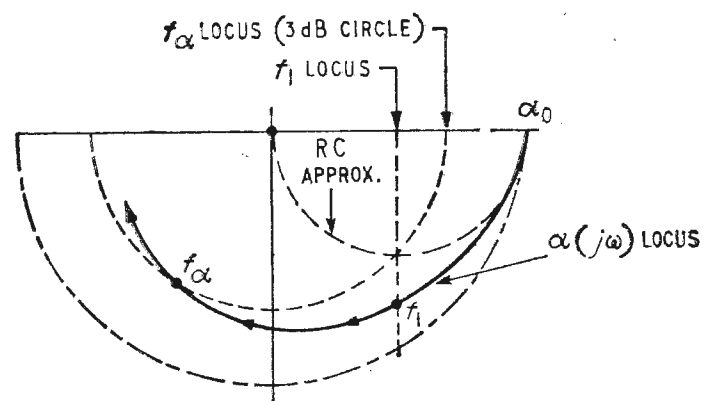

Fig. 4.
Further insight into the relationship between ω_α and ω_T may be obtained from an accurate polar plot of $\alpha(j\omega)$. As shown in Fig. 4 ω_α is the frequency at which the $\alpha(j\omega)$ locus cuts the 3dB circle, whereas ω_T is the frequency at which the real part of the $\alpha(j\omega)$ locus is 0.5.
(3) The relationship (by eq. 4) between α and β involves vectors and Tilsley's calculation of a β magnitude of 2.3 when $|\alpha|$ is 0.7 is erroneous.
(4) The derivations given in the article are based on the simple RC approximation to $\alpha(j\omega)$ (shown by the dotted line in Fig. 4). It is certainly not valid to use this low-frequency approximation to establish relationships between high-frequency parameters. As an exercise in circuit theory, Tilsley's equation